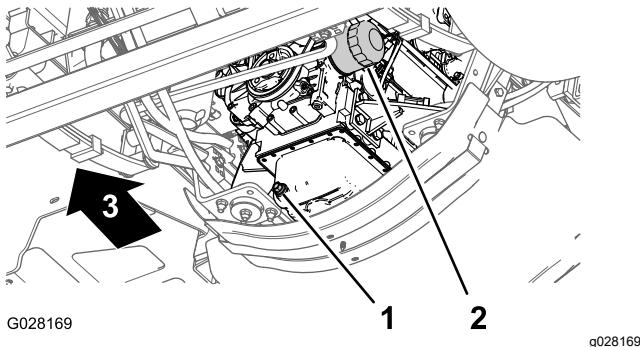

Figure 111
3. Align a drain pan under the engine oil filter (Figure 111).
4. Remove the old oil filter (Figure 111).
8. Install the oil filter to the filter adapter and turn the oil filter clockwise until the rubber gasket contacts the filter adapter, then tighten the filter an additional 1/2 turn (Figure 111).
1. Align a drain pan under the drain plug (Figure 111).
2. Remove the drain plug (Figure 111) and allow the oil to drain completely.